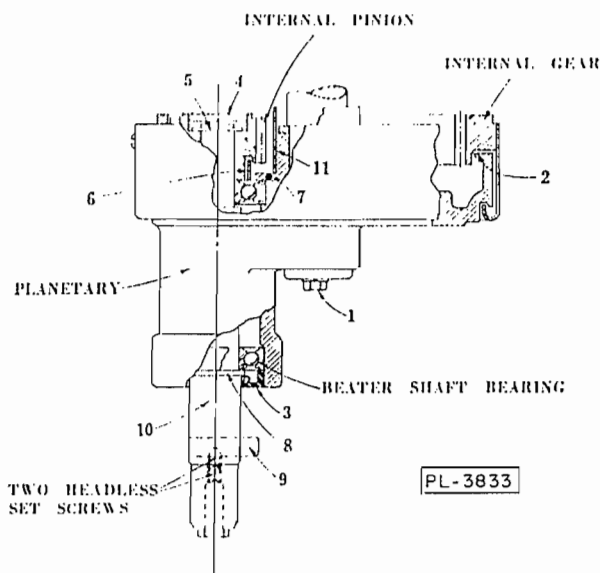

Fig. 5
Support the weight of the planetary while removing the retaining screw (1, Fig. 5). If the removal of the planetary proves difficult, use the two 3/8" tapped holes provided on opposite sides of the planetary shaft for anchoring a puller. The holes are plugged with nylon plugs.
If a pry is to be used between the planetary and the internal gear, always pry downward. The cast iron lip (2, Fig. 5) on top of the planetary is breakable. This lip serves as a trap for the oil and would have to be repaired if broken.
- (1) Remove the planetary as previously explained.
- (2) Take out the planetary oil seal (3, Fig. 5). This seal can be pried out by using a small screwdriver between the outside of the seal and the planetary casting.
- (3) Pry out the oil-retaining cap (4, Fig. 5) which is pressed into the top of the internal pinion. (Be sure to replace this cap when reassembling).
- (4) Remove the retaining ring (5, Fig. 5) and the pinion, then drive the beater shaft down through the bearings.
If the lower bearing does not come out with the beater shaft (10, Fig. 5) it can be pulled down after the beater shaft is out. The upper bearing can be pulled out after removal of the planetary oil baffle (6, Fig. 5).
When re-assembling the oil baffle to the planetary, a little Permatex around the "O" ring (7, Fig. 5) will improve the seal. Be careful not to cut the "O" ring on the edge of the planetary or baffle.
The primary purpose of the seal (3, Fig. 5) is to keep moisture and ingredients from the bowl out of the lower bearing. It can be slipped down from the top of the shaft and over the small shoulder (8, Fig. 5) if care is taken. Grease the shoulder so that the seal will slide over it. If installing the seal from the bottom, you must remove the beater pin (9, Fig. 5), clean the shaft, and make sure that the lip of the seal is not cut or folded under. The lip must go up toward the bearing. Make sure that the spring is in place in the seal groove adjacent to the lip. If the lip of the seal is dry, the seal may squeal. A little lubrication worked under the lip will correct this.